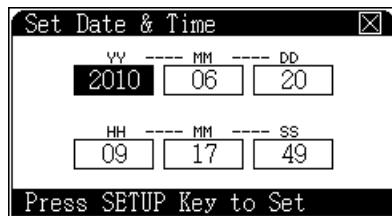

Figure 17 The Set Date & Time screen
- The **Set Date & Time** screen opens. This screen displays the current year, month, day, hour, minute, and second (see Figure 17). Press the arrow keys to highlight the proper cell, then press [**Setup**] to select it.